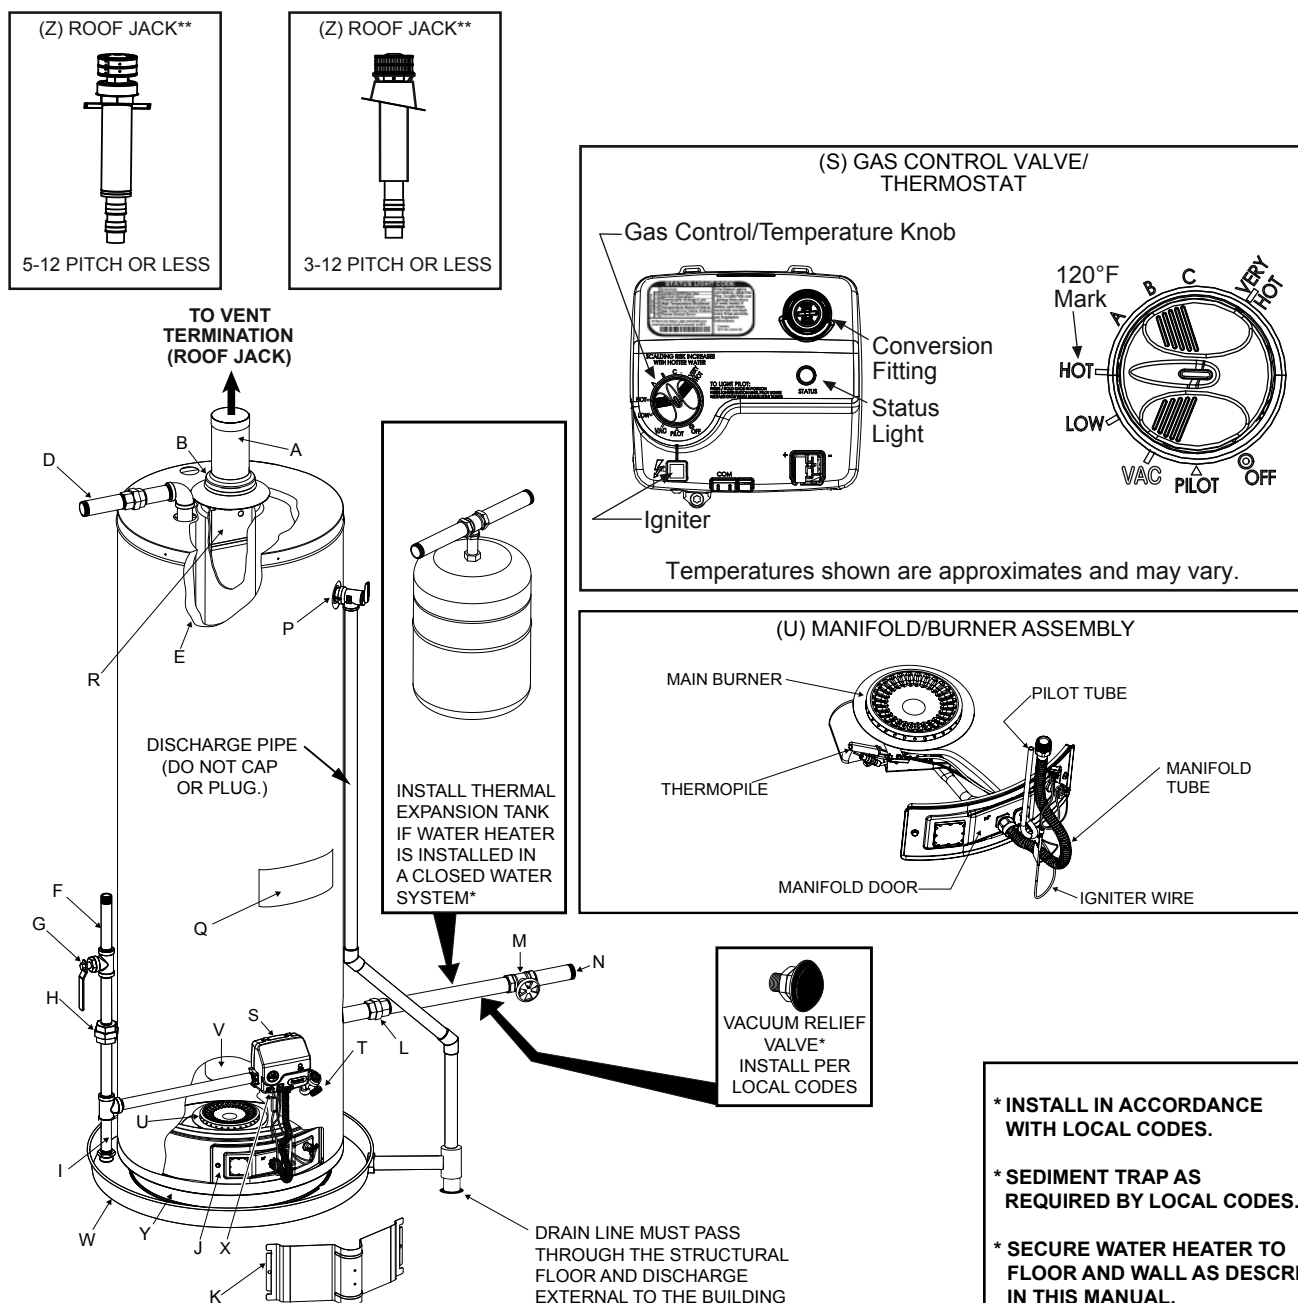

FIGURE 1.
- Carefully plan the place where you are going to put the water heater. Correct combustion, vent action, and vent pipe installation are very important in preventing death from possible carbon monoxide poisoning and fires. See Figure 1.